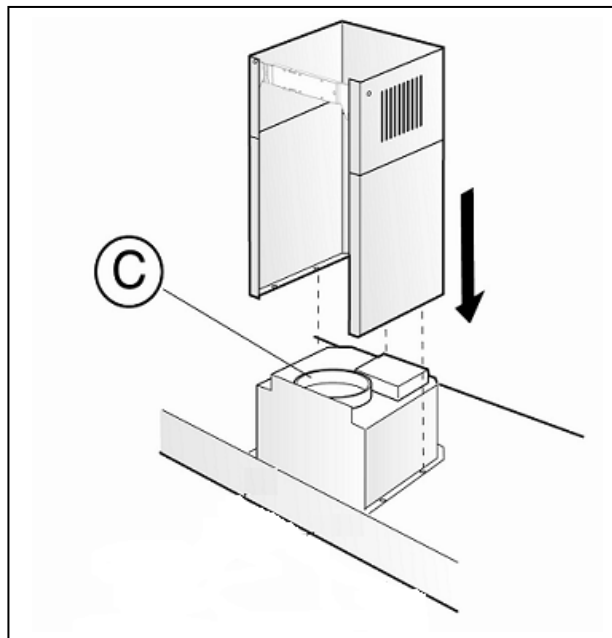

Fig 4
Step 4: Place the lower section of chimney cowl over the upper section and lower into place as shown in (Fig 4).